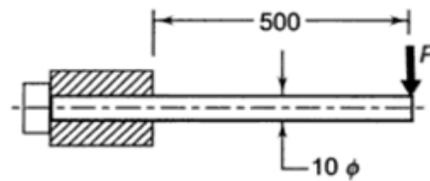

Figure.3b
- b) A cantilever spring made of 10 mm diameter wire is shown in the Figure.3b. The wire is made of stainless steel 4Cr18Ni10 (ultimate tensile strength  $S_{ut}=860 \text{ N/mm}^2$  and yield strength  $S_{yt}=690 \text{ N/mm}^2$ ). The force  $P$  acting at the free end varies from 75 to 150 N. The surface finish of the wire is equivalent to the machined surface. There is no stress concentration and the expected reliability is 50%. Calculate the number of stress cycles likely to cause fatigue failure. Surface finish factor  $K_a=0.72$ , size factor  $K_b=0.85$ .